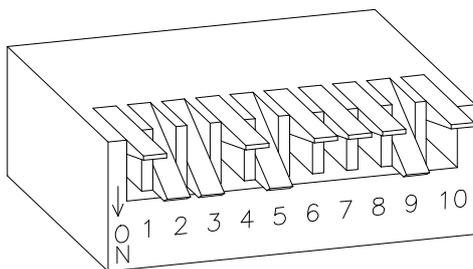

FIGURE 1
1. Verify DIP switch settings are applicable to the system. The DIP switches (see **Figure 1** below) on the electrical interface board are accessible from the bottom of the cash drawer unit.
1. Verify the switches on the cash drawer are set to the original factory settings. Refer to **Figure 1** in **Section I** for these settings.
4. If the software package checks for the drawer status, verify the correct DIP switch (see table next to **Figure 1**) is set ON, and close the drawer to allow the host to transmit the opening data sequence out the serial port.
5. Recheck all the DIP switch settings (if appropriate, reset to default – See **Figure 1**). Toggle each switch from its current position to the opposite position and back to be sure each switch is fully seated in the proper position. For example, if it is ON, turn it off and then ON again.